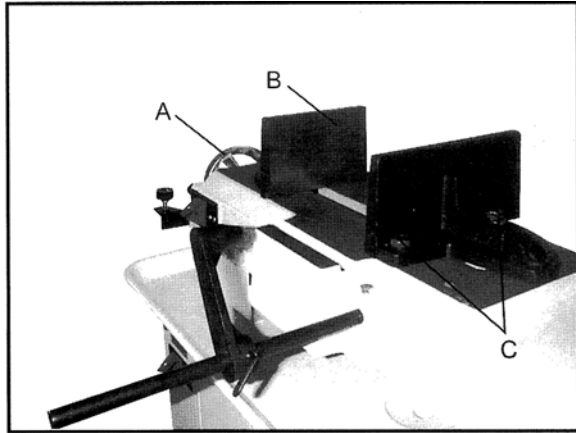

Figure 12
1. Remove bolt and nut assemblies (C, Figure 12).
- Position the vise and re-install the bolt assemblies as pictured in Figure 12.